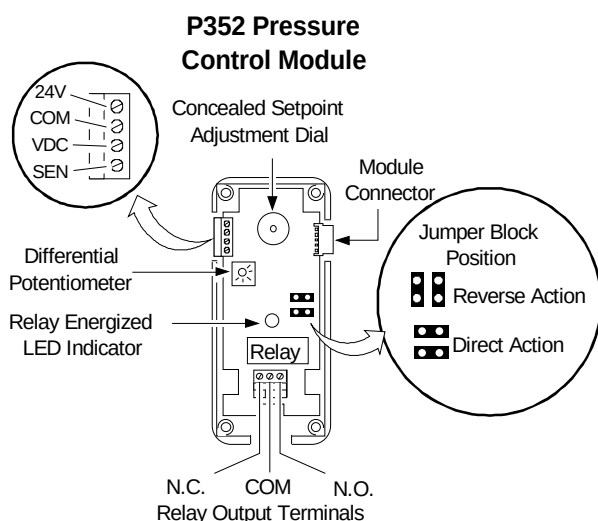

Figure 5: P352 Electronic Pressure Control Adjustment Potentiometer Locations and Board Layout
Setpoint is defined as the pressure at which the relay will de-energize. The setpoint can be adjusted from 90 to 250 PSIG. Adjustment is made using the concealed setpoint adjustment dial located under the cover in the center of the printed circuit board (see Figure 5).
Differential is defined as the change in transducer pressure between energization and deenergization of the relay. The differential can be adjusted from 10 to 100 PSI. Adjustment is made using the potentiometer marked “DIFF ADJUST” located on the printed circuit board below and to the right of the setpoint dial (see Figure 5).
The direct/reverse action mode is selected via jumper blocks marked “RA/DA” located on the right side of the circuit board above the relay (see Figure 5). As shipped from the factory, the RA/DA jumper blocks are installed in the horizontal (direct action) position.
The P352 Pressure Control is used with the P99 Series Active Pressure Transducer, which is powered by the 14 VDC power supply of the P352. The transducer is connected at the four-conductor screw terminal block located at the upper left of the circuit board. (See Figure 5 and Table 1.)
2. Set the reverse/direct action (RA/DA) jumper blocks to the desired mode of operation. Position the jumper blocks vertically for reverse action or horizontally for direct action. (See Figure 5.)